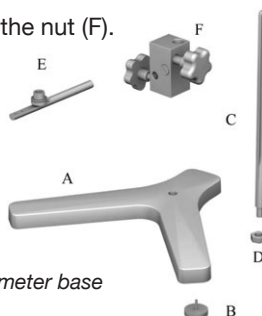

Fig. 5 Set-up for the viscometer base
- Remove all of the parts from the carry-case or the standard package. Note the figure below (fig 5).
- Correctly screw the three height adjustable knobs (B) into the Y-shaped base (A).
- Mount the fastening rod (C) with the holding screw (D) at the base (A).
- Attach the nut (F) to the fastening rod. The viscometer should be connected to the nut (F) by means of its rod (E).